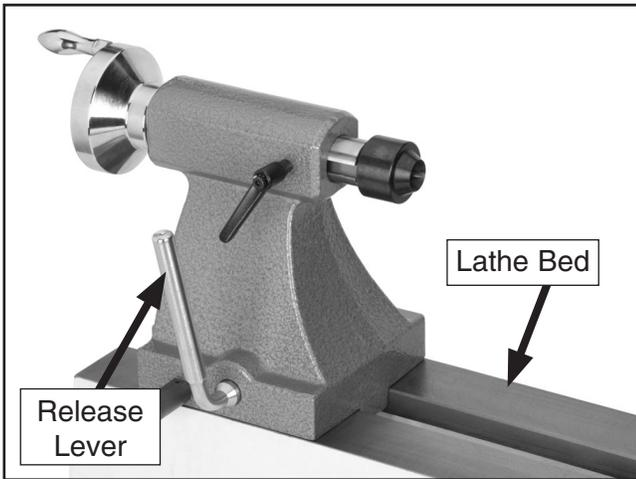

Figure 20. Tailstock controls.
1. Loosen the release lever and move the tailstock to the desired position (**Figure 20**).